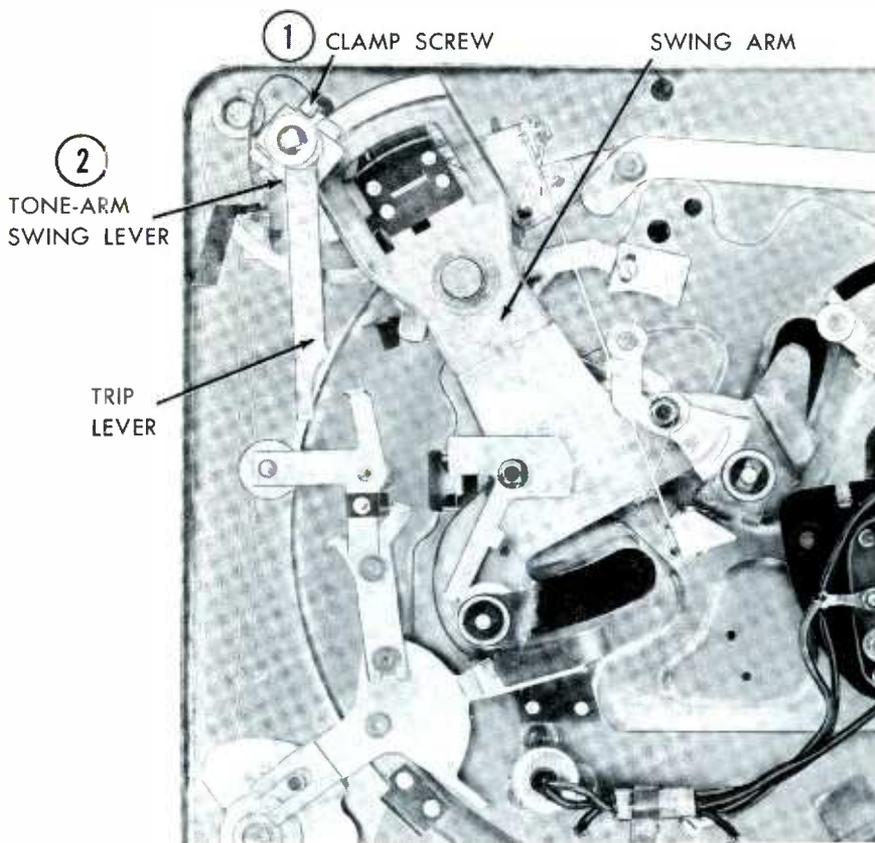

Fig. 2. Milwaukee Changer, Bottom View.
5. Using the photograph of the bottom view of the Milwaukee Model 11200 (Fig. 2) as a guide to locate the parts, loosen the clamp screw (1).